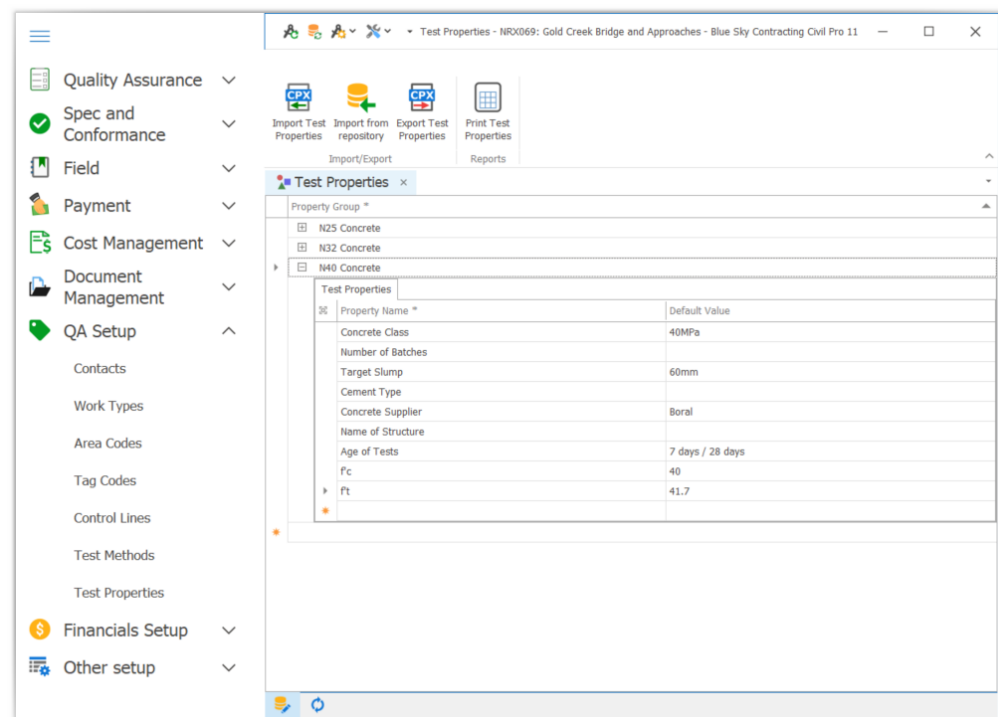

Figure 29 Test Properties Register
4. Next enter the details for the groups N32 and N40 using the information in the training supplement. When completed your register should look like that in Figure 29.